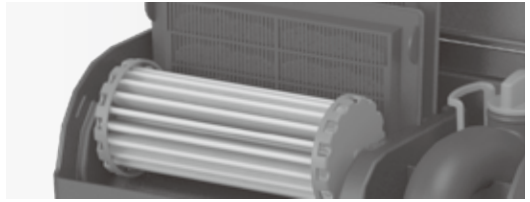

Fig. 1
- 2 Rinse the cartridge** in clean, room temperature water that has been treated with a water conditioner to remove chlorine (this will extend the life of your carbon). Ensure the cartridge and BIO-Wheel® are secured in place (Fig. 1).